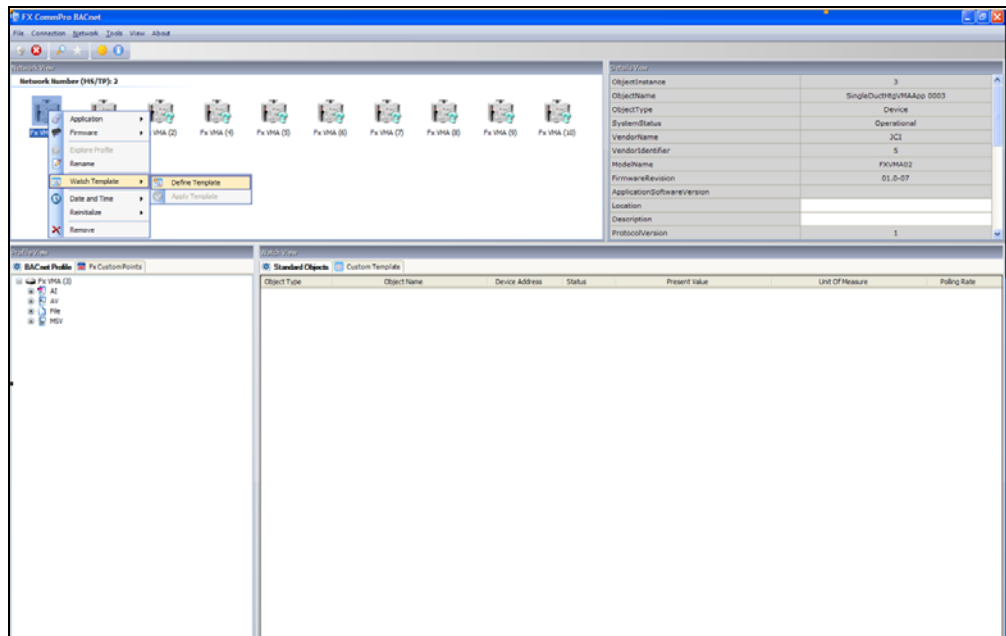

Figure 33: Define Watch Template
1. In the Network View, right-click the device and select Define Template from the Watch Template menu (Figure 33).